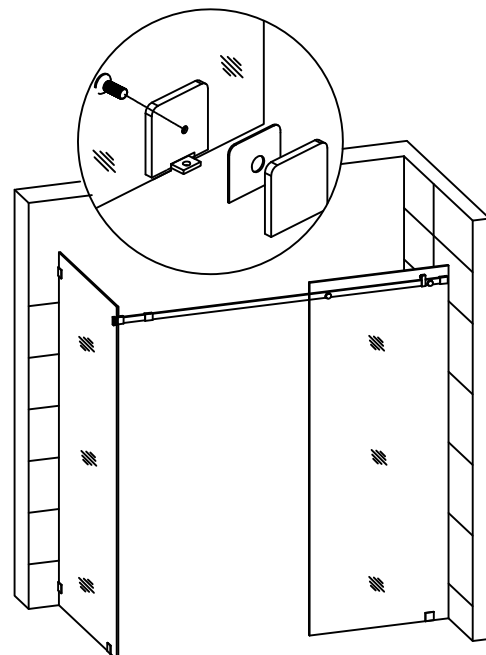

Fig. 22
See Fig.22 for details.
29. Position the Sliding Door Track Divider (8) into position as seen in Fig.22 and mark the 2 shower base hole positions.
**Note:** In Fig.22 the hole locations for attaching sliding door track divider should be  $1 \frac{3}{16}$ " from edge of Large Fixed Glass (3).